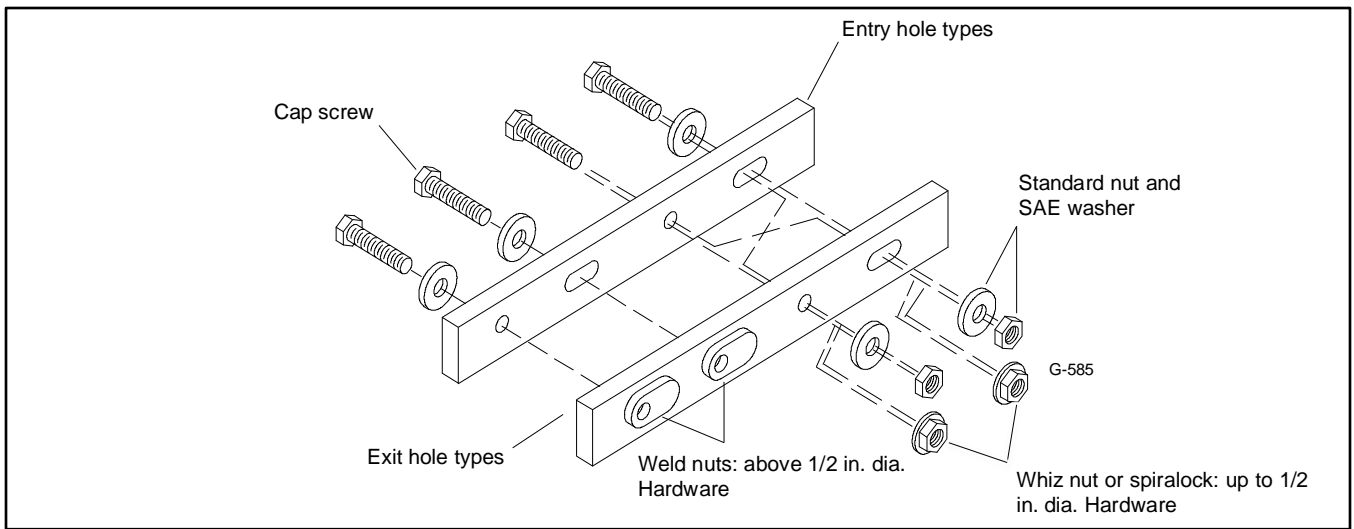

Figure 216 Acceptable Hardware Combinations
3. For round and slotted exit holes, determine if hardware is greater than 1/2 inch in diameter, or 1/2 inch in diameter or less. Hardware that is greater than 1/2 inch in diameter takes a standard nut and SAE washer. Hardware 1/2 inch or less in diameter can take a properly torqued whiz nut or spirallock nut. See Figure 216.
5. Refer to Figure 216, which depicts the preceding hardware configuration possibilities.